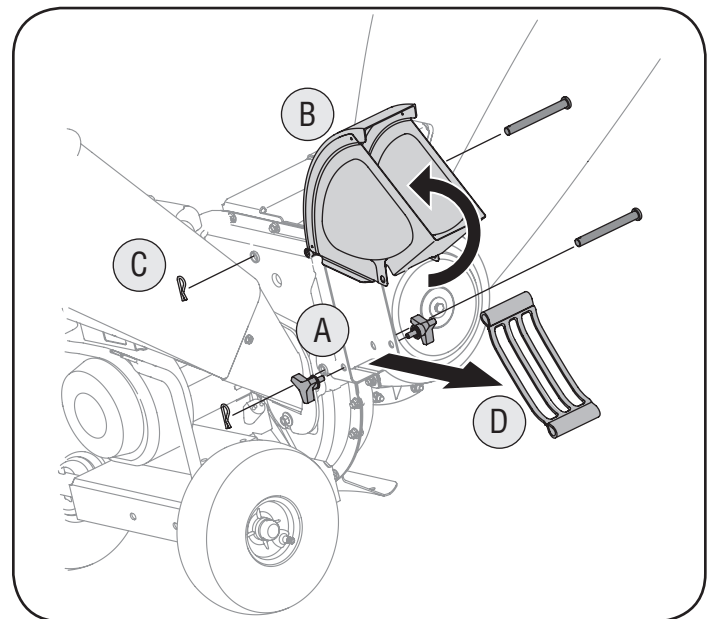

Figure 14
- A. Remove the bag and two wing knobs on each side of the chute deflector. See Figure 14.
- D. Remove the shredder screen from inside the housing and clean the screen by scraping or washing with water. See Figure 14.